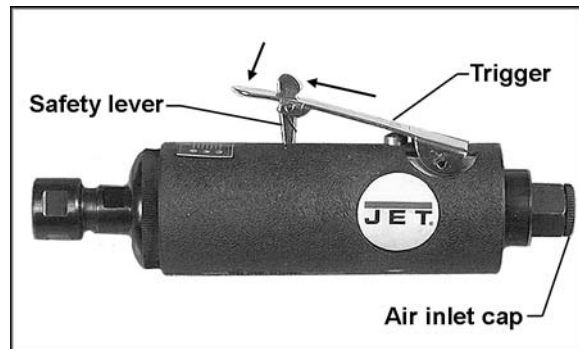

Figure 2
5. Press forward on the safety lever and down on the trigger (Figure 2). How far down the trigger is pressed determines rotation speed of the tool.